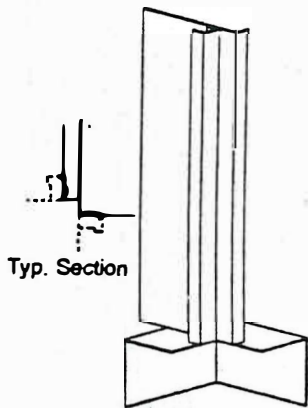

Figure 19
A. See Figures 19, 20, 21, 22 and 23.